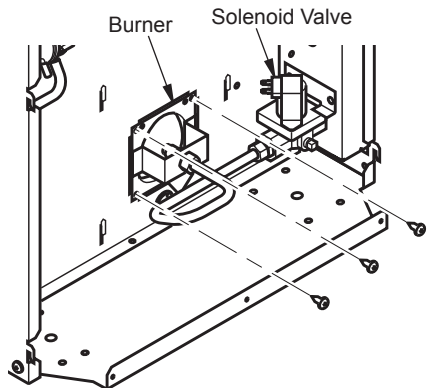

Figure 13 - Removing Burner
4. Remove 3 screws securing burner to partition (see Figure 13). Rotate burner clockwise and pull out of chamber.